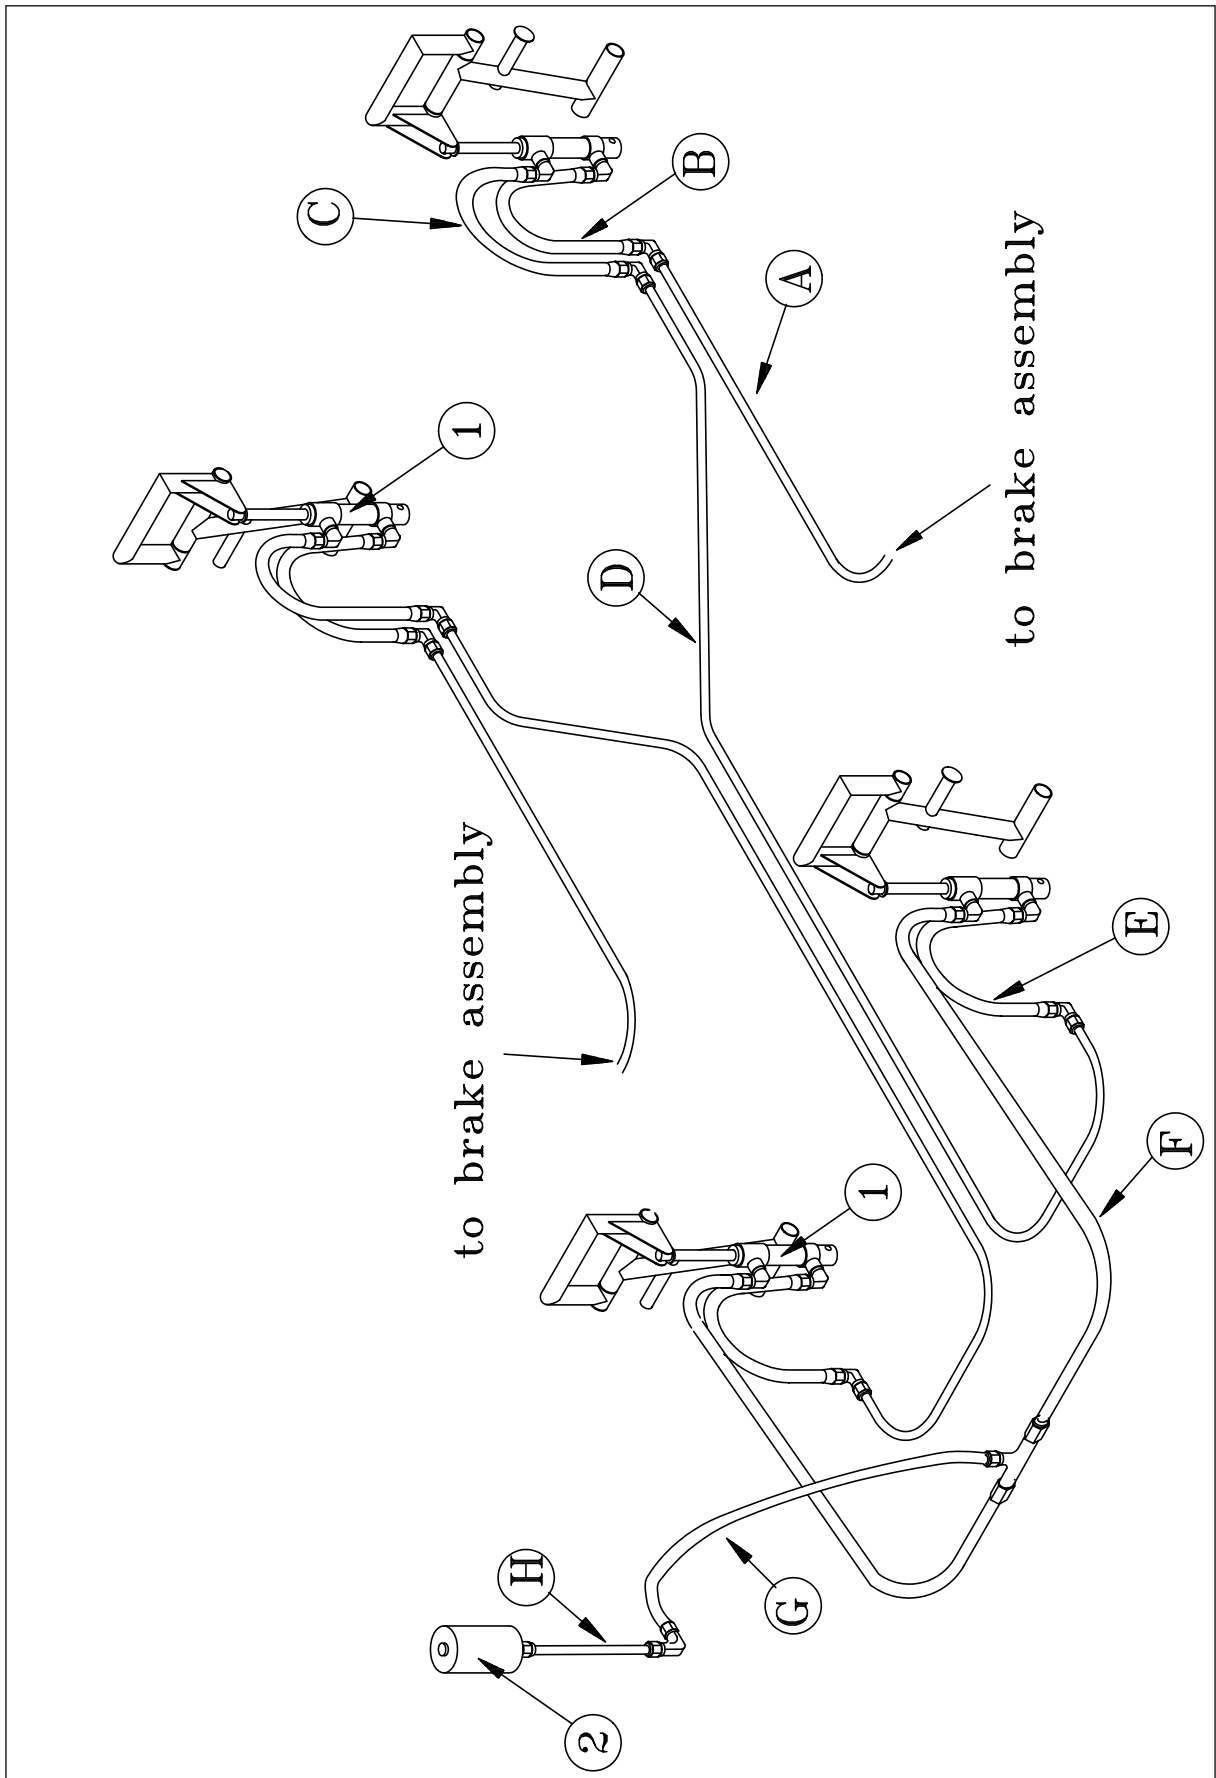
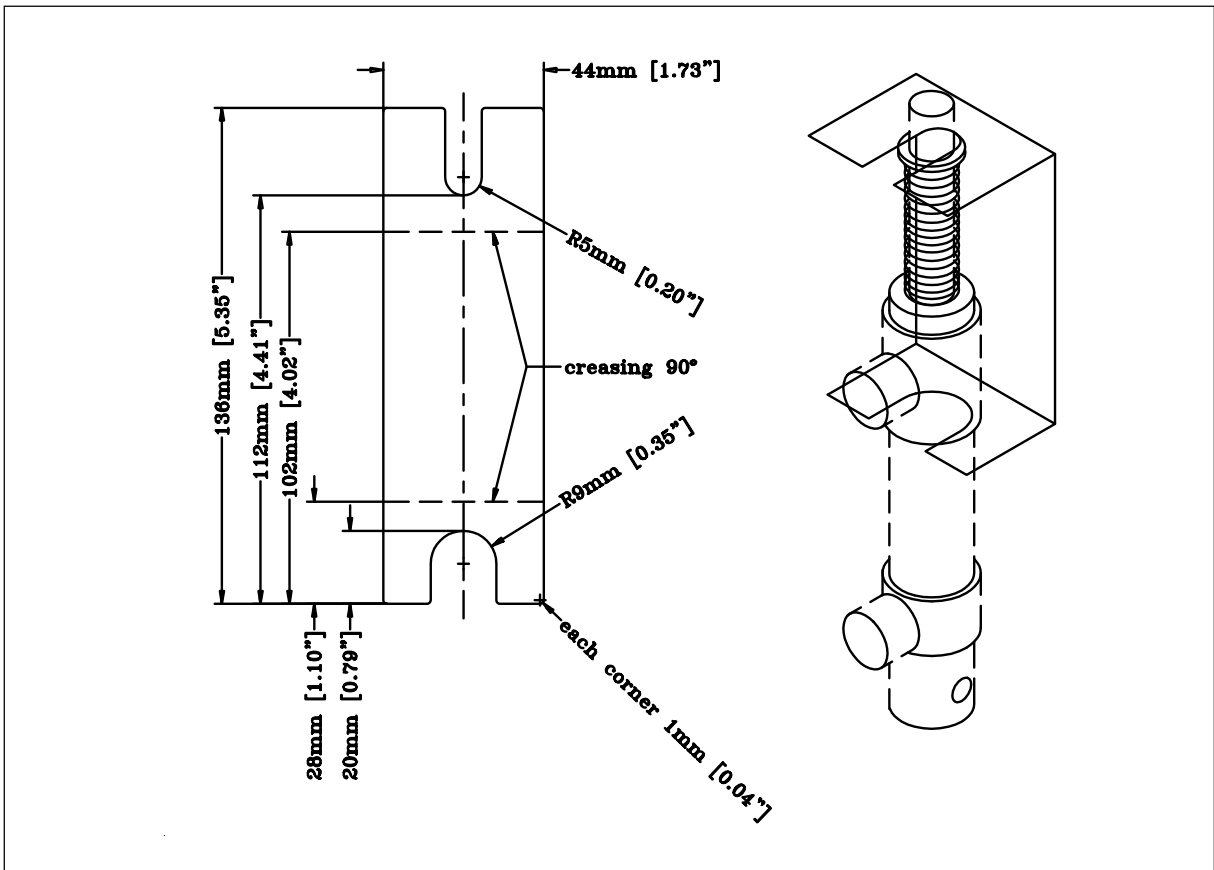

Figure 4
Figure 5
The brake system (refer to figure 4) consists of a brake assembly located at the inner side of the wheel, a master cylinder (1) at the front and rear rudder pedals each, and a brake fluid reservoir (2) mounted at the engine side of the firewall. The master cylinders are mounted in line, so that the front cylinder loses its efficacy, when the rear cylinder has been actuated. The particular parts of the brake system are interconnected by brake lines consisting of aluminium tubes and flexible hoses (In Figure 4 details are only outlined, for accurate identification of parts refer to Fig. 5. The capital letters in Fig. 5 refer to the marks in Fig. 4). However from Serial No. 47 the brake lines in the cockpit area are replaced by a KNAPP hose system.
- 3 Fix the master cylinder spring using a mounting aid as shown in Figure 5 (Cleveland master cylinder only).